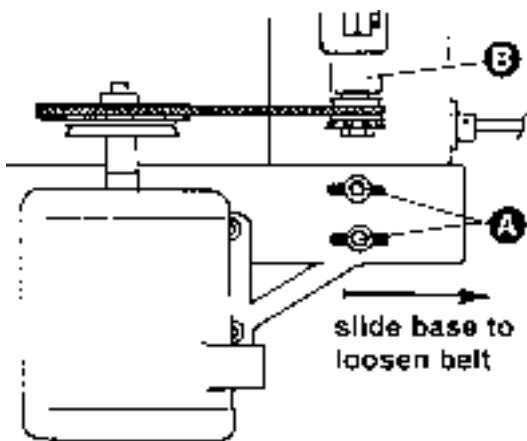
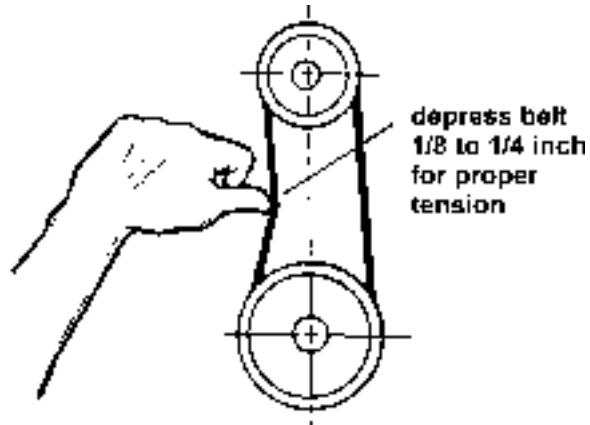

FIGURE 8
FIGURE 9
Loosen the two hex head cap screws (A) that hold the motor base to the quill side, and slide the motor base towards the quill (B), Figure 8. Attach the belt and tighten by sliding the motor base away from the quill. Proper belt tension is reached when the belt can be depressed about 1/8" to 1/4" between the pulleys, Figure 9. Tighten the two hex head cap screws.